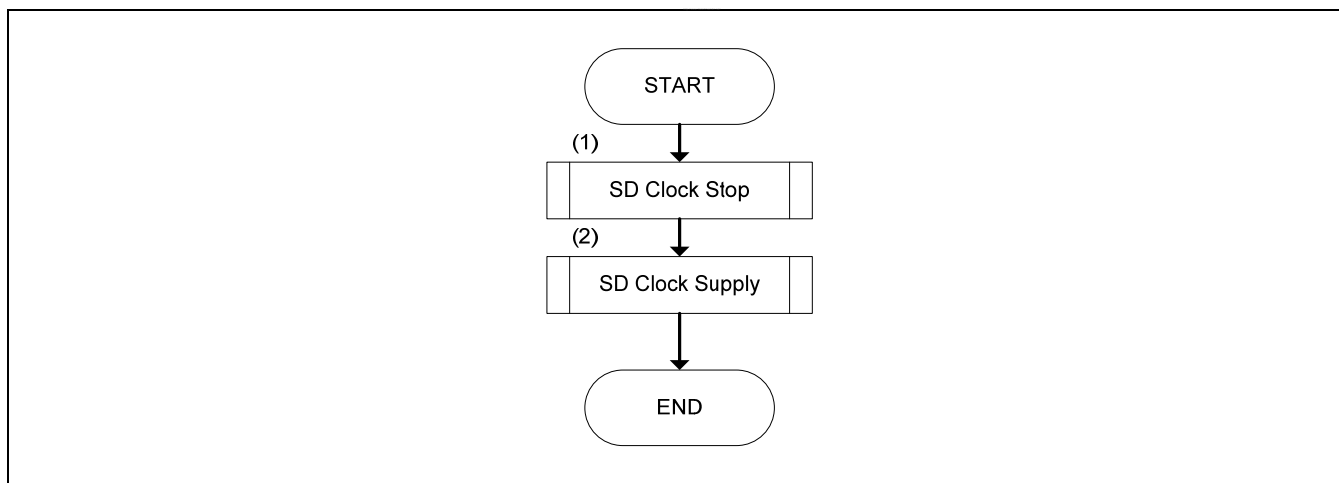

Figure 27-5. SD Clock Change Sequence
The sequence for changing SD Clock frequency is shown in Figure 27-5. When SD Clock is still off, step (1) is omitted.
- (1) Perform SD Clock Stop Sequence. Refer to 27.4.2
(2) Perform SD Clock Supply Sequence. Refer to 27.4.3